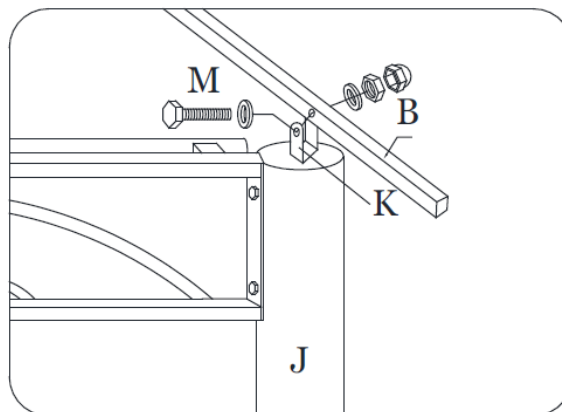

Figure 7
Secure the Small “U” Bracket (K) by tightening Screw (O) then attach the Long Corner Roof Support (B) with Bolt, Washers and Nut (M). See Figure 7.